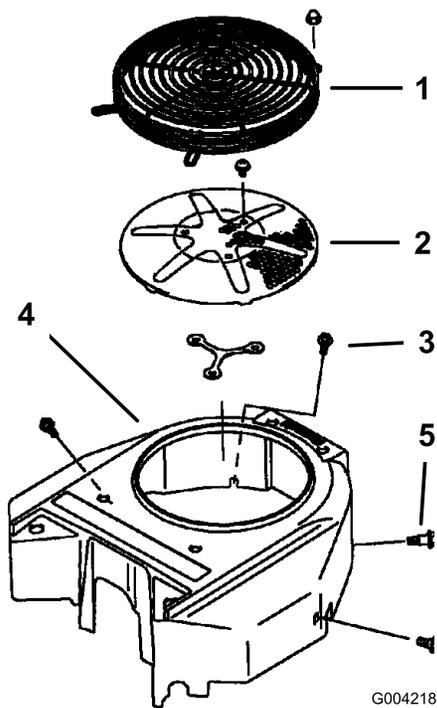

Figure 71
Before each use remove any buildup of grass, dirt, or other debris from the engine screen. This will help ensure adequate cooling and correct engine speed and will reduce the possibility of overheating and mechanical damage to the engine (Figure 71).
- Remove the air intake screen, recoil starter and fan housing (Figure 71).
- Install air intake screen, recoil starter and fan housing (Figure 71).